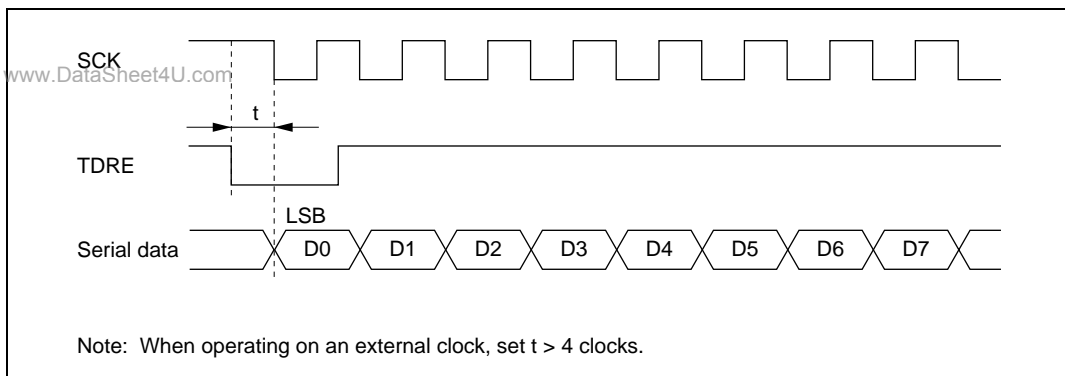

Figure 14.35 Example of Synchronous Transmission Using DTC
- When an external clock source is used as the serial clock, the transmit clock should not be input until at least five ϕ clock cycles after TDR is updated by the DMAC or DTC. Abnormal operation may occur if the transmit clock is input within 4 ϕ clocks after TDR is updated. (figure 14.35)